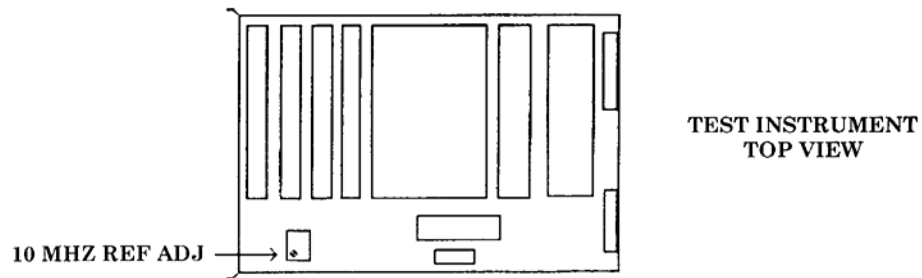

Figure 2. 10 MHz ref adj location.
- e. Remove screw covering the 10 MHz REF ADJ (fig. 2)
- f. Adjust 10 MHz REF ADJ (fig. 2) for a minimum frequency difference meter indication.
- h. Replace screw on 10 MHz REF ADJ (fig. 2).